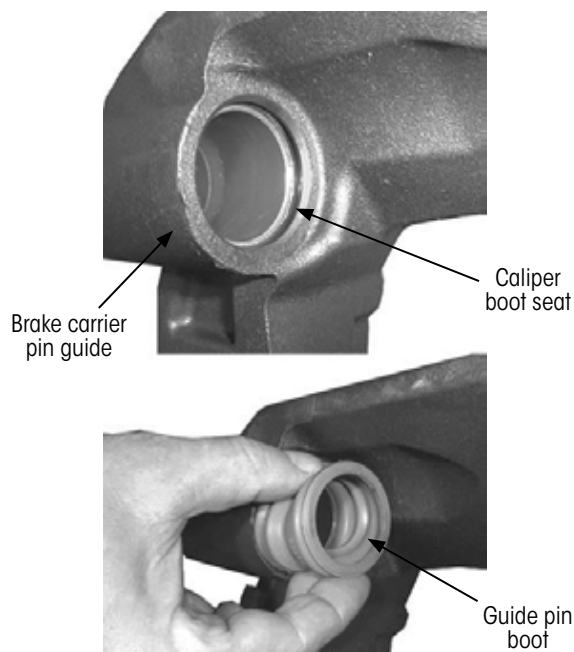

Figure 62: Guide pin boot
4. **Clean** the guide pin and boot seats of the brake caliper (Figure 62).
5. **Manually push** two new guide pin boots into the brake caliper boot seats (Figure 62).